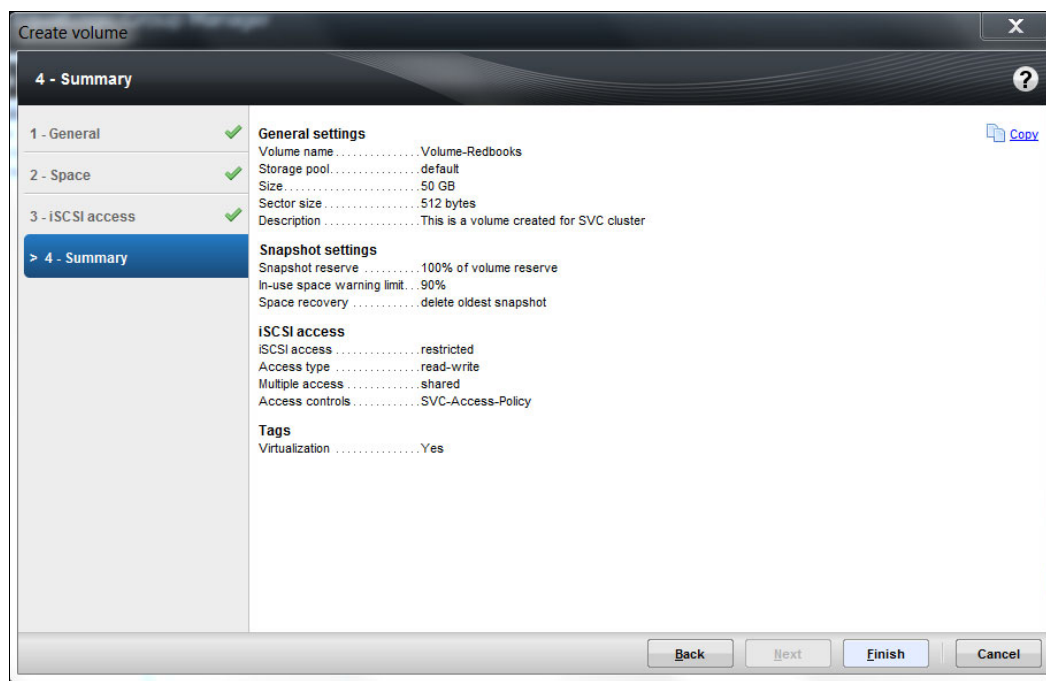

Figure 14-18 Volume summary to validate before creation
8. Validate the summary and click **Finish**, as specified in Figure 14-18 to create the volume in the Dell controller.